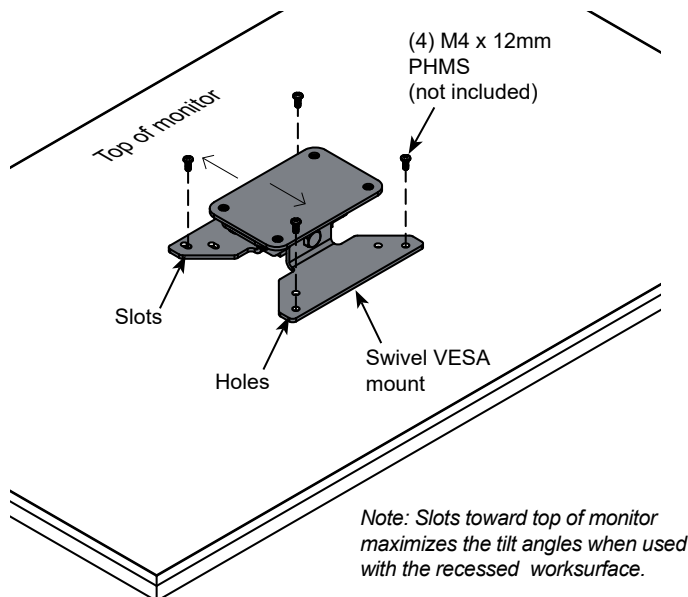
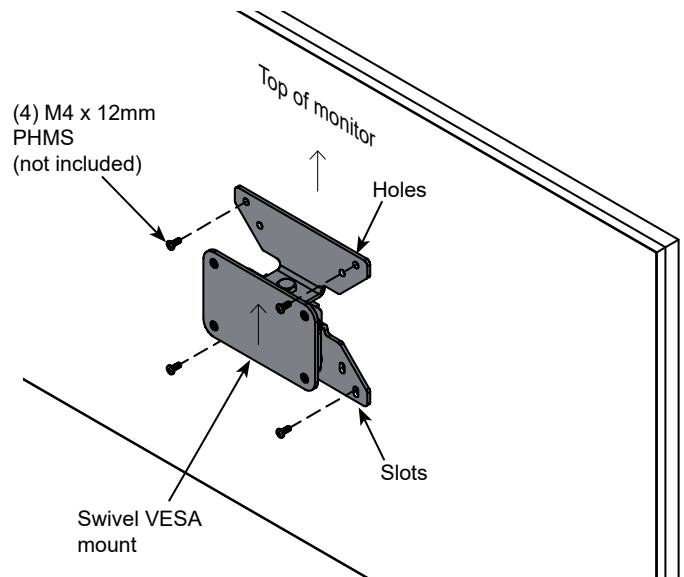

Figure 1.1
Figure 1.2
1. Choose attachment method. Horizontal (recessed worksurface) **Figure 1.1** or vertical (audience-side panel) **Figure 1.2**.
2. Attach the VESA mount (butterfly-shaped portion) to the back of your flat panel monitor with (4) M4 x 12mm PHM screws. Note orientation of holes and slots with the top of the monitor in each method. **4mm screws not included.**